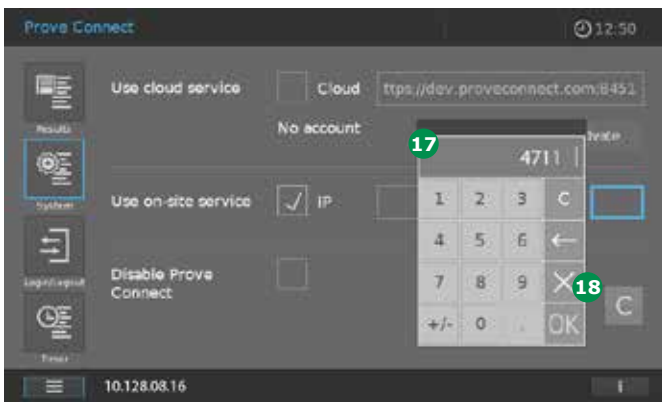

Figure 32 - Screen of Spectroquant® Prove / Prove plus (Figure 28) with entered Port of the PC on which Prove Connect runs
11. Click in the field: Port (text box with blue border). The entry field appears **17** (Figure 32).
13. Confirm the entered Port with "OK" **18** (Figure 32).